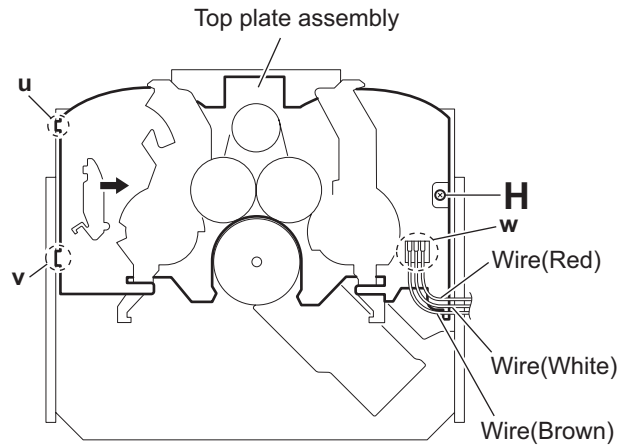

Fig.15
3.2.10 Removing the top plate assembly (See Fig.15)